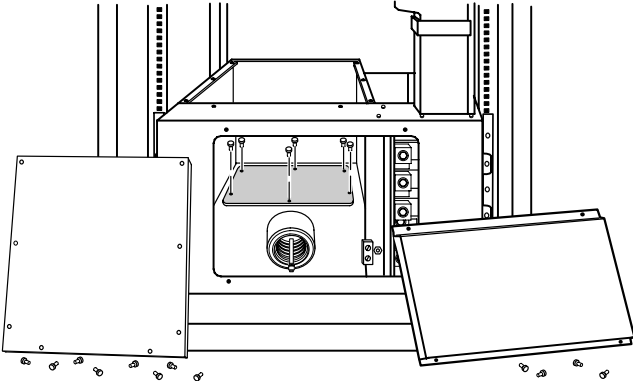

Figure 6. Removing the Conduit Landing Plate (Bottom Entry Shown)
- 4. Remove the six screws on the conduit landing plate and retain. Remove the plate and retain. See Figure 6.